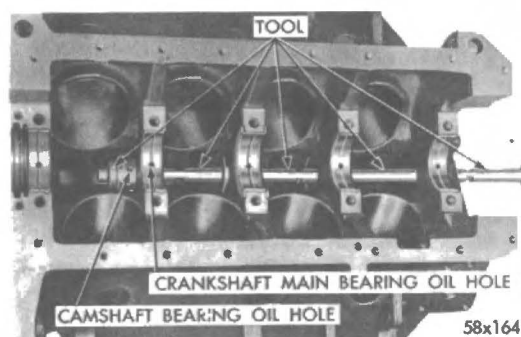

Fig. 21 Removing Camshaft Bearing Using Tool C-3132A
(1) Install the new camshaft bearings with Tool C-3132A by sliding the new camshaft bearing shell over the proper adaptor.
(2) Position the bearing in the tool. Install the horse shoe lock and by reversing the removal procedure, carefully drive bearing shell into place, as shown in Figure 21.
(3) Install the remaining shells in like manner.
The oil holes in the camshaft bearings and cylinder block must be in exact alignment to ensure proper lubrication. (Fig. 21).